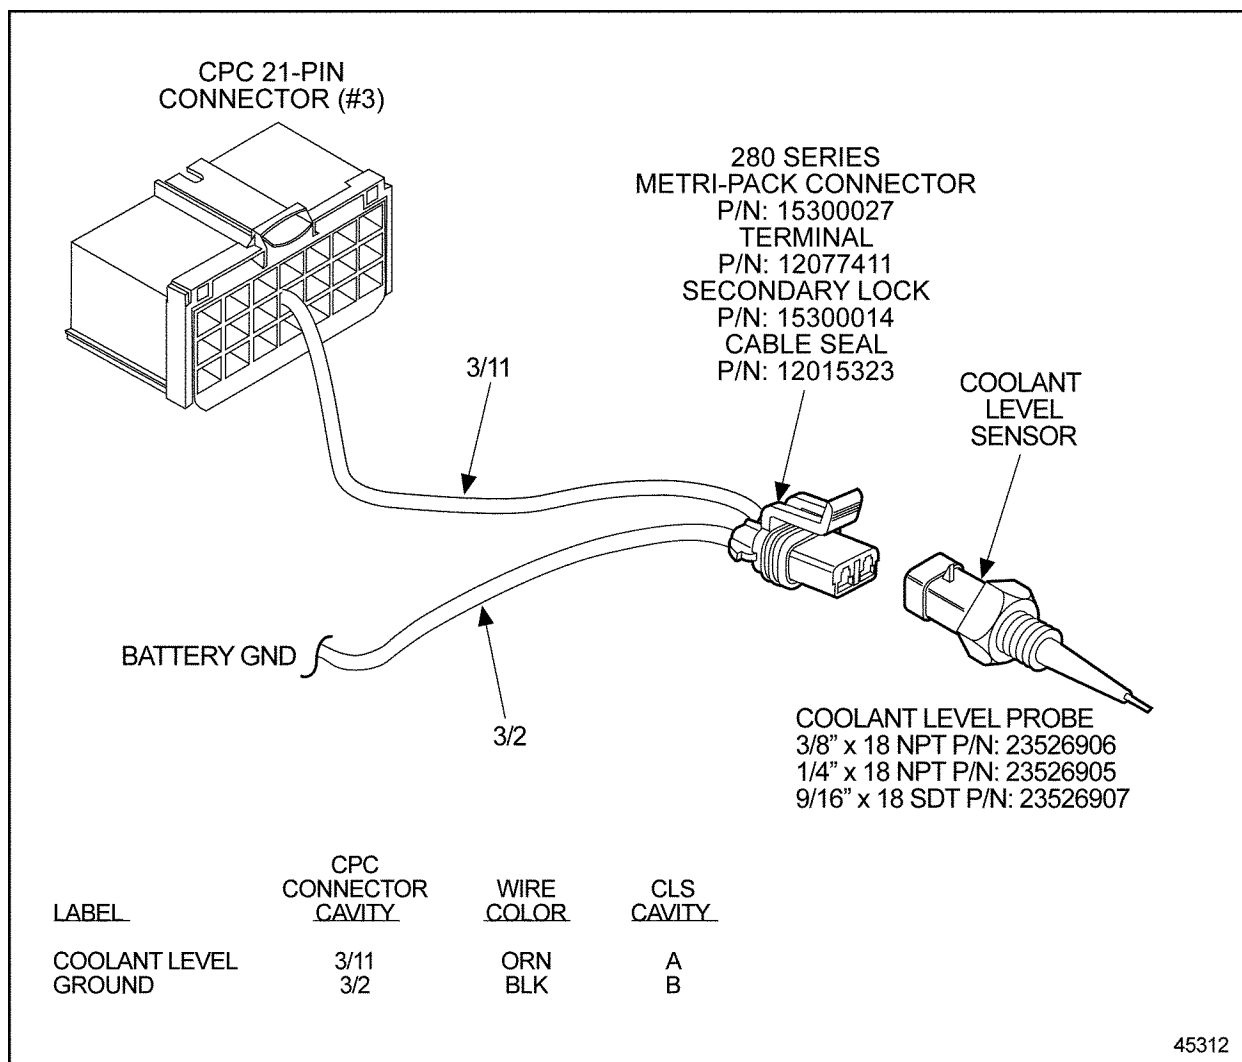

Figure 30-2 Engine Coolant Level Sensor Installation for CPC
- [b] If the coolant level in the reservoir is within limit, replace the sensor (see Figure 30-2). Refer to section 30.1.2.1.